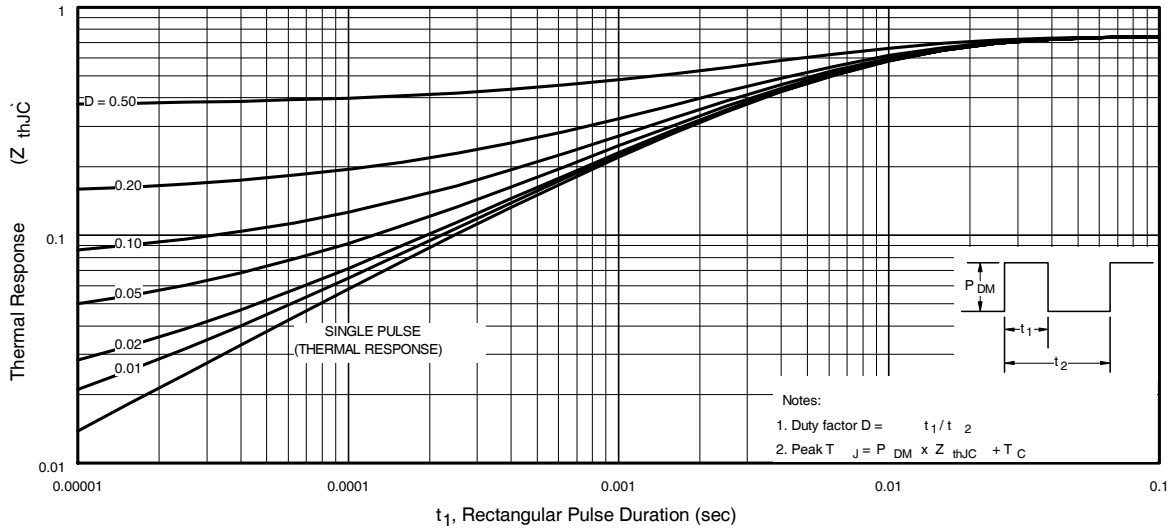

Fig 11. Maximum Effective Transient Thermal Impedance, Junction-to-Case
- ① Repetitive rating; pulse width limited by max. junction temperature. (See fig. 11).
- ② Starting T_J = 25°C, L = 0.24mH
$Z_{thJC}(D, t_{av})$ = Transient thermal resistance, see figure 11)